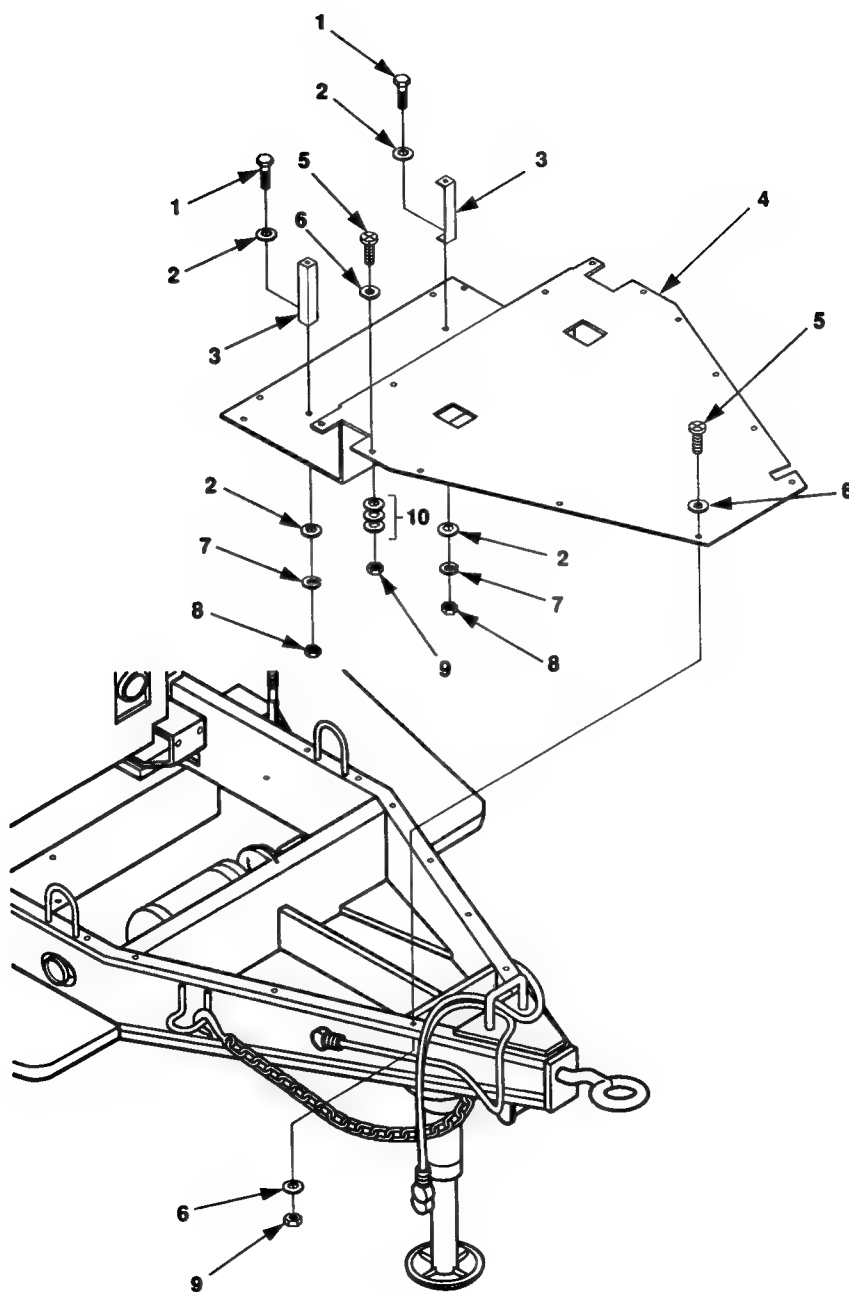

Figure 4-21. Front Platform Replacement.
1. When removing the front platform on unit A, refer to paragraph 4-12 and remove switch box. Remove two hex nuts (8, figure 4-21), flat washers (2), two lock washers (7), and two screws (1) that secure the two switch box supports (3).
2. Remove fifteen self-locking nuts (9), thirty-six flat washers (6 and 10), and fifteen screws (5) that secure the platform (4) to the trailer. Discard self-locking nuts.